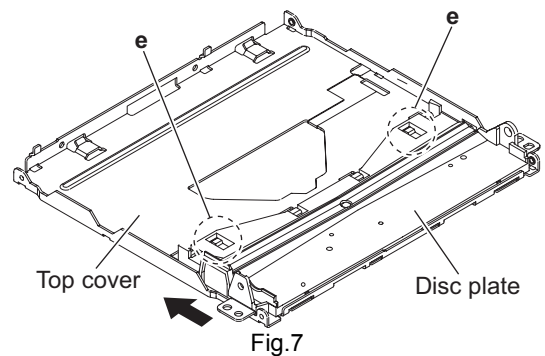

Fig.7
3.2.4 Removing the PHOTO BOARD assembly (See Fig.7 and 8)
- (1) From the bottom side of the top cover, release the projection **e** from the notch of the disc plate. (See Fig.7.)
- (2) Take out the disc plate in the direction of the arrow. (See Fig.7.)